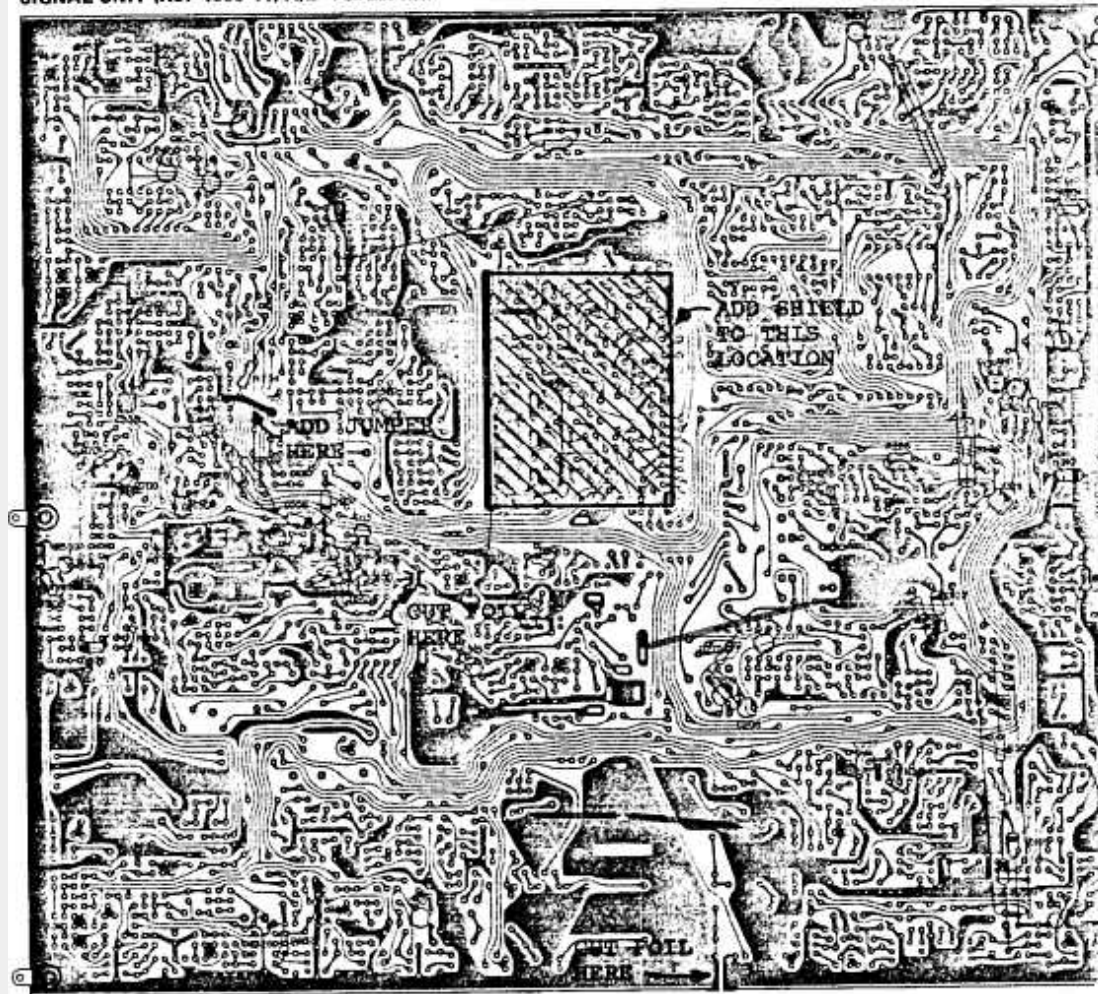

Figure 1
3. Remove the twenty-two (22) screws that secure the Signal Unit/Heat sink to the chassis. Unplug the RAT, DRV, XVT, FRQ and the VCOF coaxial cables from the Signal unit. These are located along the rear and the left side of the Signal unit. Unplug connectors number (16) and (20) located along the right of the Signal unit.
5. Install the shield plate as shown in figure 1. Cut the circuit foil and add the jumper wire as shown.